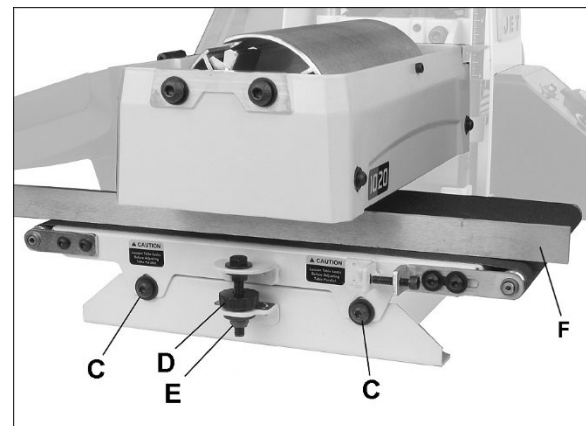

Figure 7-3: drum alignment
3. Position gauge (F, Figure 7-3) between drum and conveyor table at *outboard* side of drum.
1. Loosen both table locking screws (C, Figure 7-3) with 5mm hex wrench.
2. To *raise* outboard end of table, loosen lock nut (E, Figure 7-3) and rotate knurled nut (D, Figure 7-3) clockwise.
3. To *lower* outboard end of table, rotate knurled nut (D) counterclockwise, and tighten lock nut (E).
5. Retighten table lock screws (C).